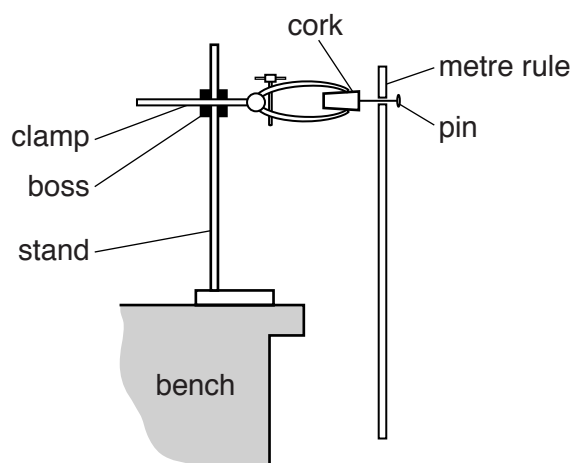

Fig. 2.1
3. The Supervisor should set up the apparatus so that the stand, boss and clamp support the pin over the edge of the bench. The metre rule should be suspended from the pin so that it overhangs the bench as shown in Fig. 2.1. The stand should not topple over when the metre rule and masses are suspended from the pin. It may be necessary to fix the stand to the bench with a G-clamp or use a weight on the base of the stand. For safety the optical pin should be held in the clamp above the candidates' eye level.
- ensure that the apparatus is set up as shown in Fig. 2.1.